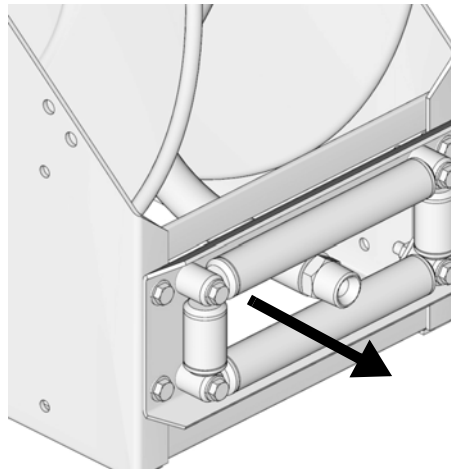

FIG. 72
- Route end of the hose through the hose rollers (FIG. 72).